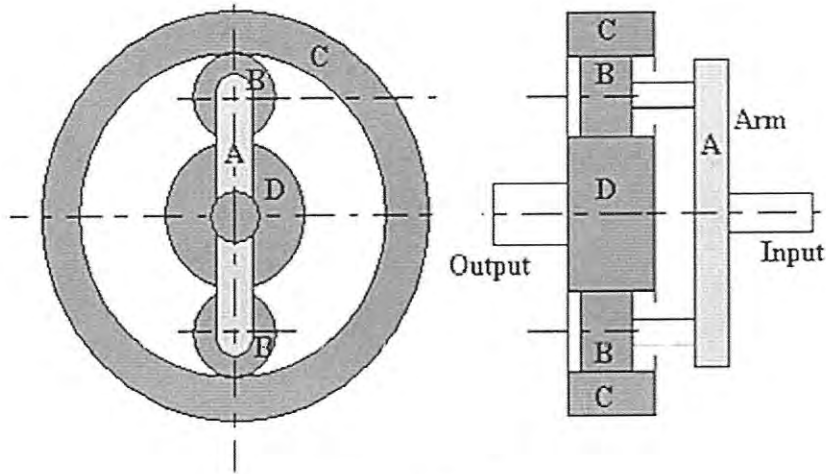

Figure Q2 (c)
- (c) An epicyclic gear box shown in **Figure Q2(c)** has a fixed outer gear C with 240 teeth. The planet gears have 20 teeth. The input is the arm/cage A and the output is the sun gear D. Calculate the number of teeth on the sun gear and the ratio of the gear box.